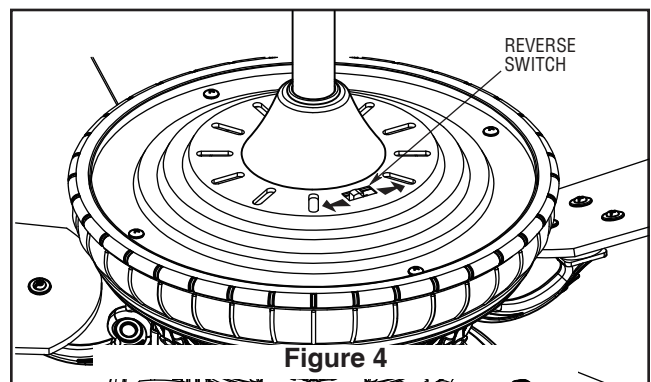

Figure 4
4. If airflow is desired in the opposite direction, turn the fan off and wait for the blades to stop turning. Then slide the reverse switch on top of motor assembly to the opposite position and turn fan on again (Figure 4).